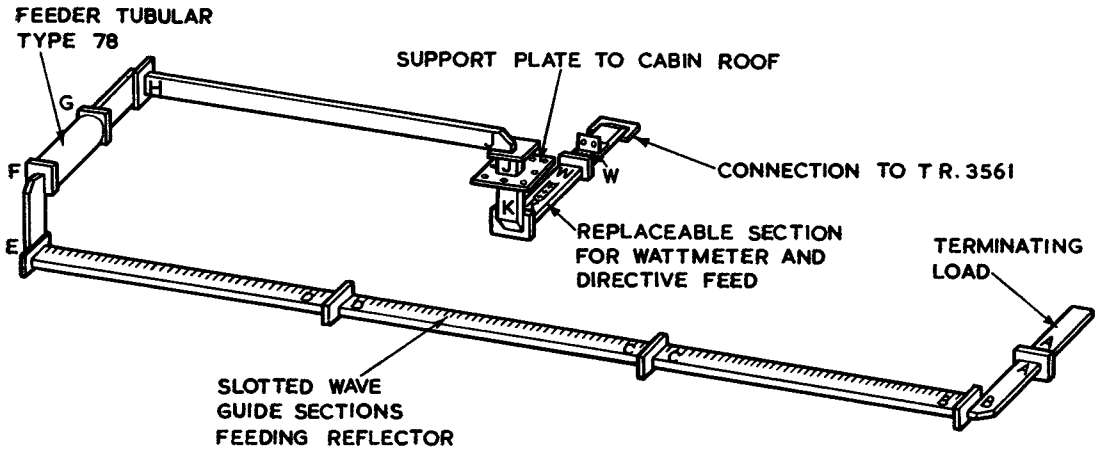

Fig. 17. Aerial kit Type 219
24. The complete waveguide system is packed in a specially constructed box which is carried in one of the power vehicles. Each section of waveguide is lettered and must be assembled as shown in fig. 17. Ensure that gaskets Type 181 are fitted at the ends and between each section of the slotted waveguide. When assembled, mount the waveguide on the reflector supports and secure by means of the clamps provided. When doing this take care not to damage the Scotch acetate tape which covers the slots of the waveguide and prevents ingress of moisture.